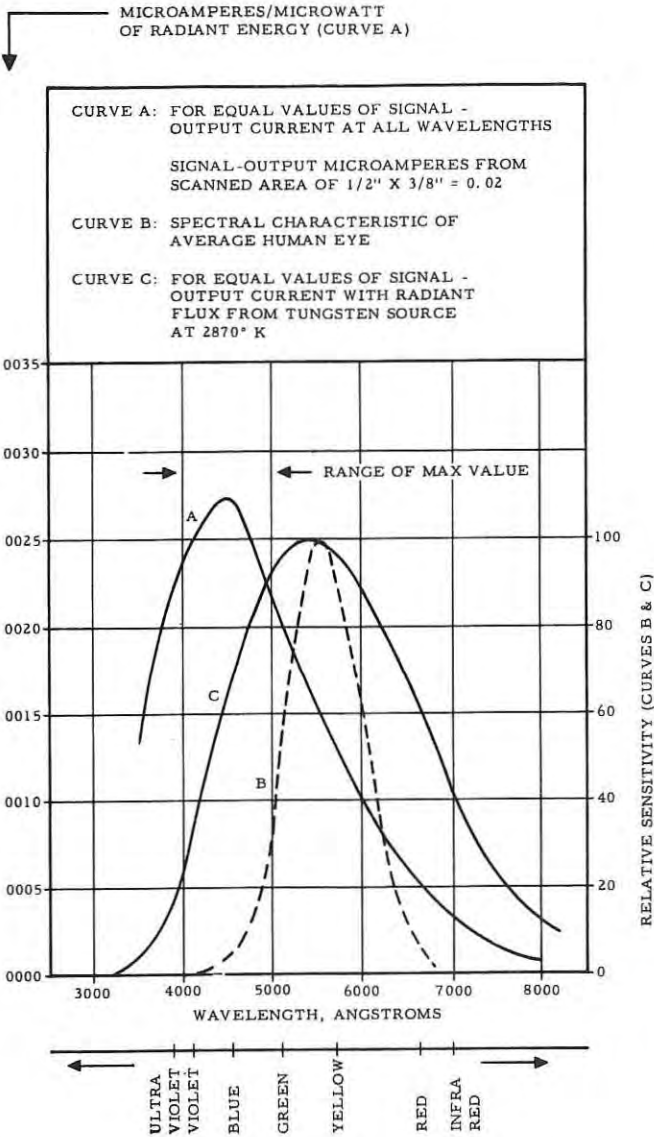

FIGURE 3: Spectral sensitivity characteristics of a typical vidicon.
- Spectral response characteristic is shown in Figure 3.